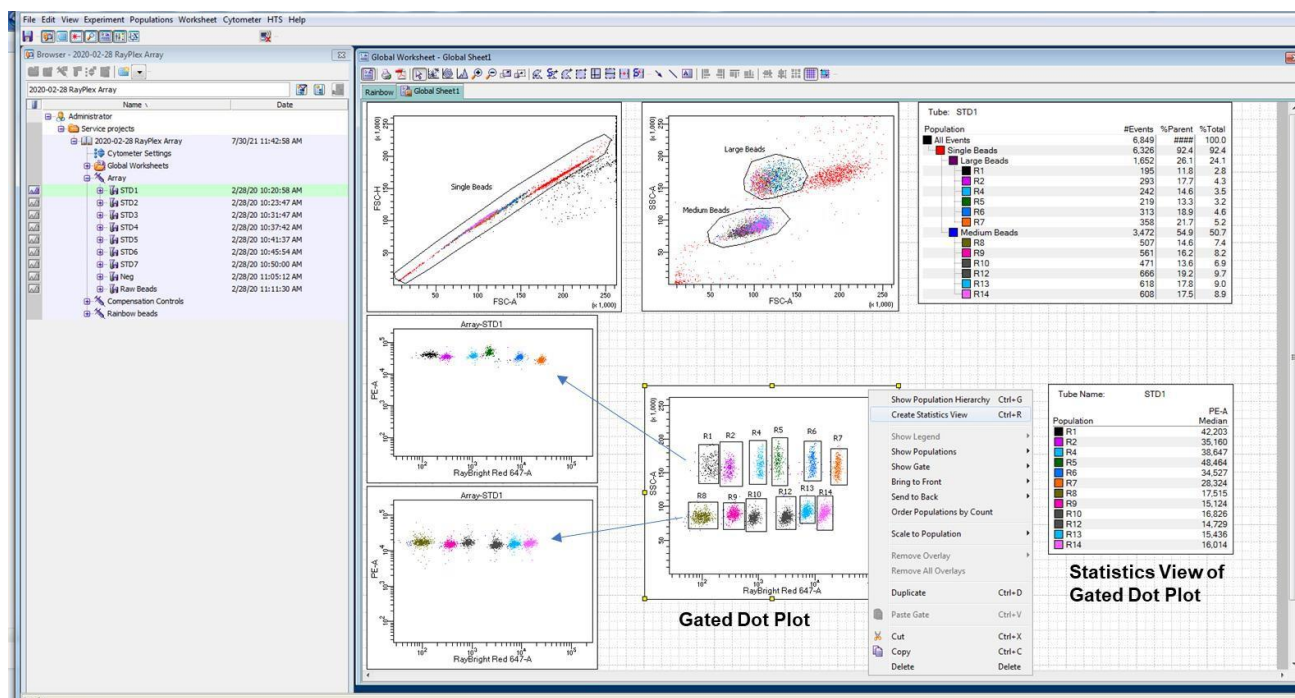
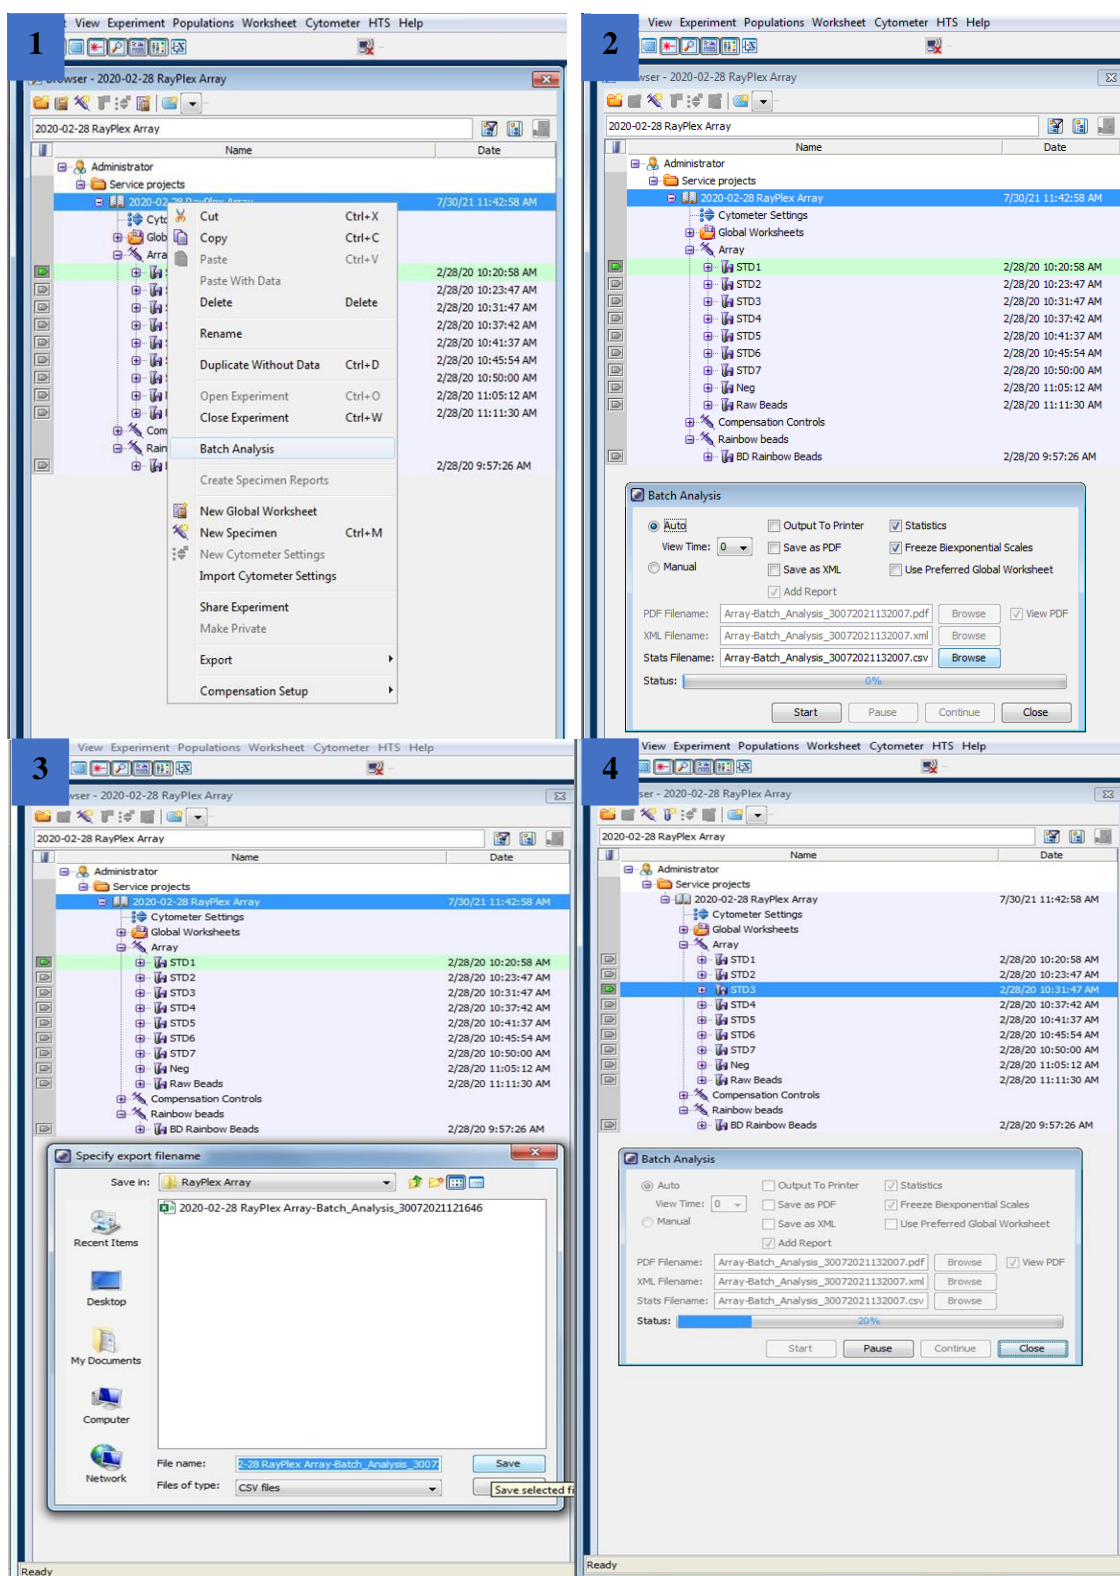

Figure 4. Screenshot of Creating Statistics View from the dot plot of gated bead populations. This is representative data only.
Figure 5. Screen shot showing how to begin the batch analysis through manual tube mode.
Batch analysis allows exporting PE MFI data of each bead population directly from FACS Diva. Before batch analysis, it's important to create statistics view from the dot plot of gated beads populations and choose "PE-A Median" to be shown (Figure 4). Batch analysis can be done in either manual tube mode or HTS mode. Both methods for batch analysis are described below (Figure 5 and 6).
1. Create a dot plot by SSC-A (linear) and APC-A (log) to show all beads populations and make a gate for each population (see figure 4, "Gated Dot Plot", R1~R14). Right click on the dot plot to "Create Statistics View", then edit the statistics view so that "PE-A Median" of gated beads populations are shown (figure 4, "Statistics View of Gated Plot").